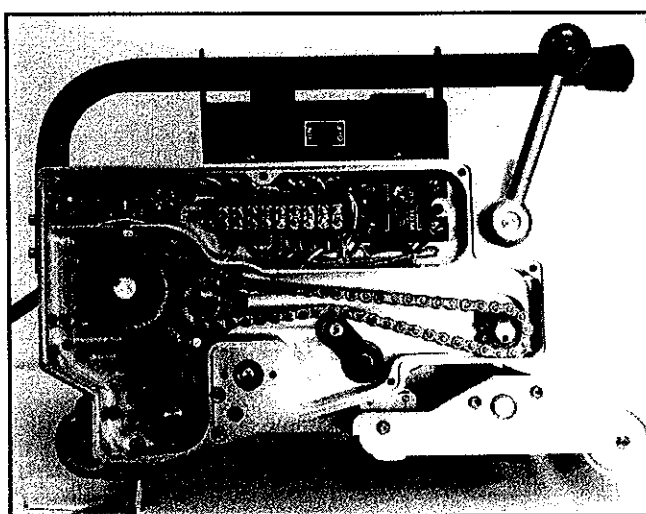
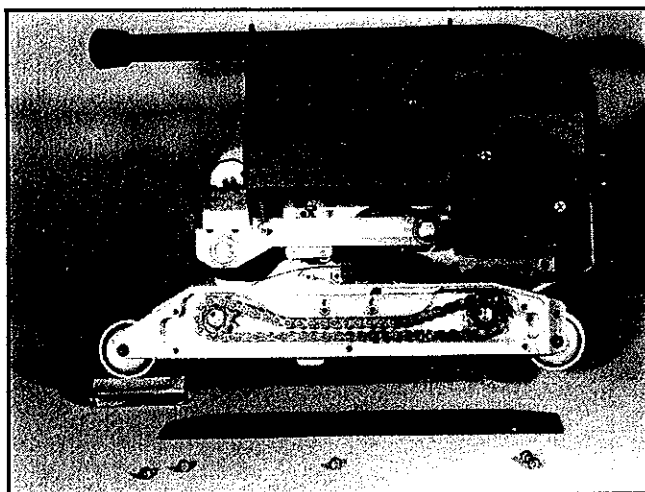

FIGURE 5
FIGURE 6
- A. Remove blue Drive-side Cover to expose main drive mechanism and main wiring terminal (See Figure 5). The Wedge Movement Handle and Adjustment Plate will need to be removed for this. Also remove Lower Drive Chain Cover on opposite side to expose Lower Drive Chain (figure 6).